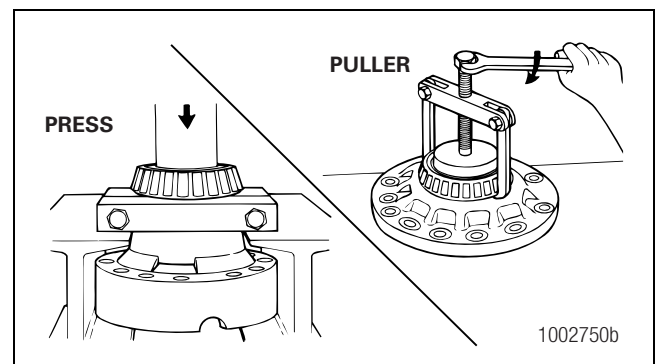

Figure 3.47
8. If the bearing cones on the main differential case need to be replaced, use a bearing puller to remove the cones. Figure 3.47.